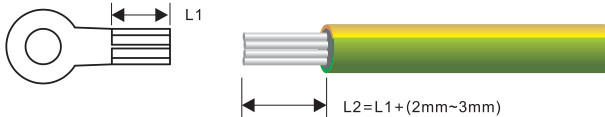

Figure 5.1 Stripped length (unit: mm)
Step 1 Remove an appropriate length of the insulation layer from the PGND cable using a wire Stripper; the length is a little bit longer than that of OT terminal's crimping end by 2mm~3mm, as shown in Figure 5.1.